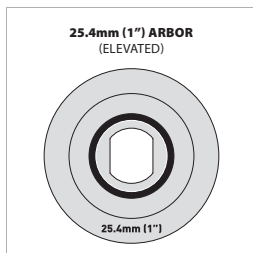

Fig. 40b
- The silver dual-sided inner-flange has a 25.4mm (1") arbor ring elevation, indicated by the black circle (**Fig. 40b**).